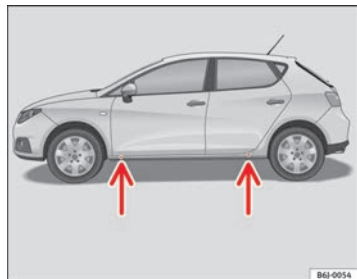

Fig. 129 Jack position points
- Locate the jacking point under the door sill closest to the wheel to be changed ⇒ **fig. 129**.
Recesses at the front and rear of the door sills mark the jacking points ⇒ **fig. 129**. There is only one jacking point for each wheel. Do not fit the jack anywhere else.